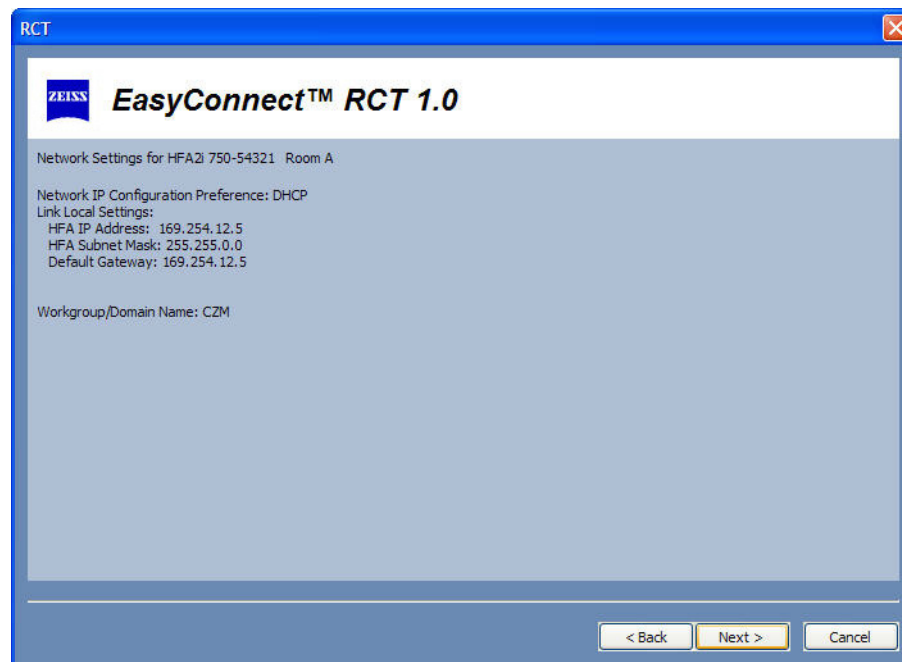

Figure G.40 Network Settings for a Selected Instrument
- 3 The RCT will display the network settings for each selected instrument, one instrument at a time (Figure G.40). Select NEXT to continue to the next selected instrument.